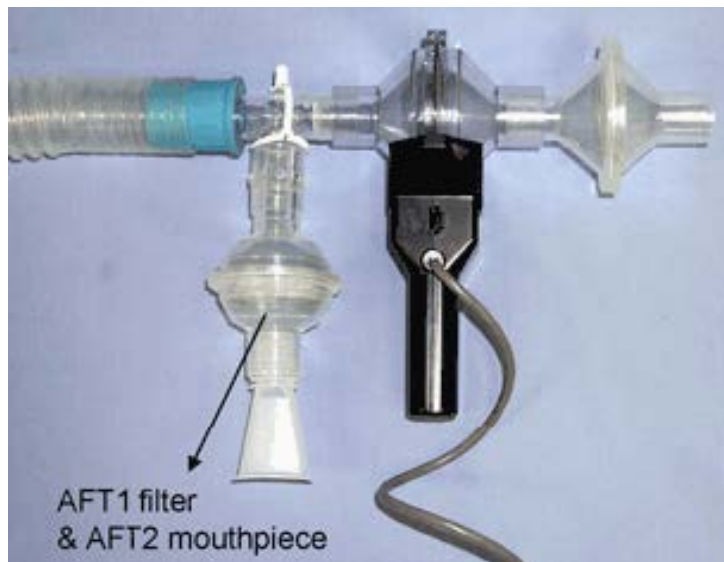

Figure 6: Schematic of airflow accessories with AFT1 filter and AFT2 mouthpiece
5. Replace calibration syringe with AFT1 filter and AFT2 mouthpiece (Fig. 6).